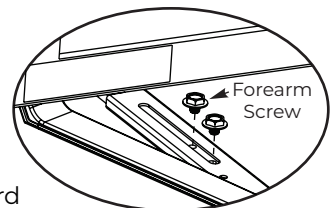

Figure 24
5. While holding arm in position, secure main arm slide tube to adjusting tube with forearm screws. (Figure 24)